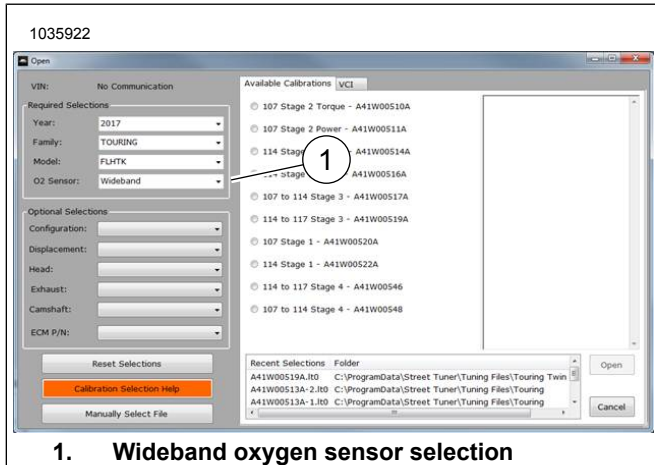

Figure 26. Wideband Oxygen Sensor Selection
25. See Figure 26. Use Screamin' Eagle Pro Street Tuner to complete installation. Download new ECM calibration when installing this kit. When selecting a calibration to download with the Screamin' Eagle Pro Street Tuner, select Wideband (1) from the pull down menu for the Oxygen Sensor option. Refer to the Screamin' Eagle Pro catalog or contact a Harley-Davidson dealer for Screamin' Eagle Pro Street Tuner details.